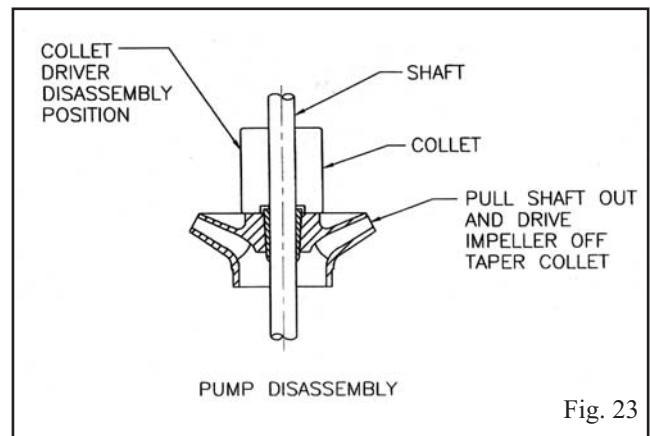

Fig. 23
1. Remove capscrews that secure top bowl (669) to intermediate bowl (670).
2. Slide top bowl off the pumpshaft (660).
3. Pull shaft out as far as possible and strike impeller hub utilizing a collet driver or equivalent sliding along the pump shaft to drive the impeller off the taper collet. (See Fig. 23.)